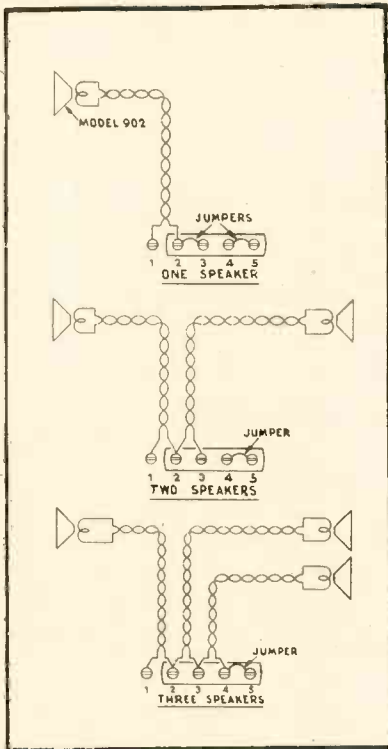

Fig. 3. Proper voice wiring plan for 1 to 3 remote-unit installations. Use of jumpers is determined by the number of remote stations involved.
- (1) Inexpensive carbon resistors are easily affected by heat and may change in value, consequently changing the feedback ratio. This may cause either excessive feedback, resulting in decreased output or insufficient feedback resulting in increased output and poor quality depending upon the direction in which the feedback ratio change occurs.
- (2) If C_B in Fig. 3 is leaking, it acts as a resistor permitting a d.c. current flow through the feedback circuit, resulting in a voltage drop across R_F which "bucks out" or neutralizes the grid bias, producing poor quality and loss of output.
- (3) Remember that amplifiers employing inverse
mote units are shown in Fig. 2 and Fig. 3. Only twisted 2-wire cable should be used for the runs between remote units and main control unit. Close proximity to unshielded power wiring should be avoided. The color code of the terminal panel wiring is given in Fig. 2.